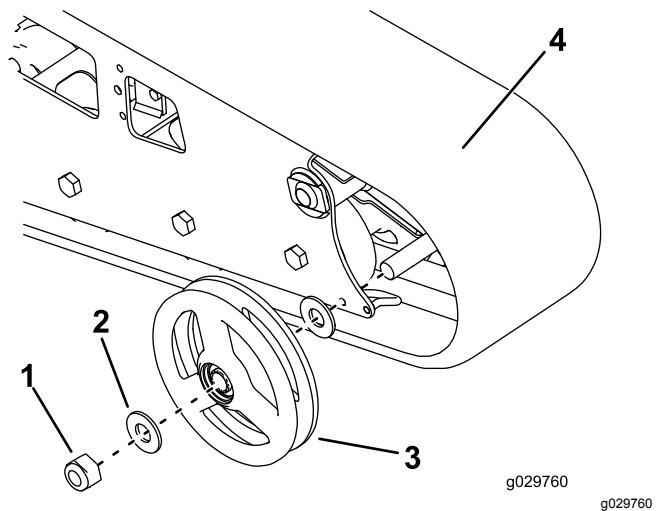

Figure 60
- Remove the nut securing the outer front wheel and remove the wheel (Figure 60).
- Remove the track (Figure 60).
- Pull the 2 large washers out of the outer wheels, 1 on each side of each wheel (Figure 60).
- Install the new track. (Figure 60).
- Install the outer front wheel and secure it with the nut removed previously (Figure 60).